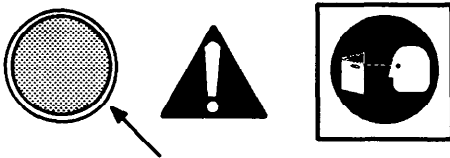

FIG. 13.
1. Your machine has an amber carbon brush indicator lamp which will light when the carbon brushes in the pad drive motor need to be replaced. (Figure 13). See THREE MONTH MAINTENANCE section.